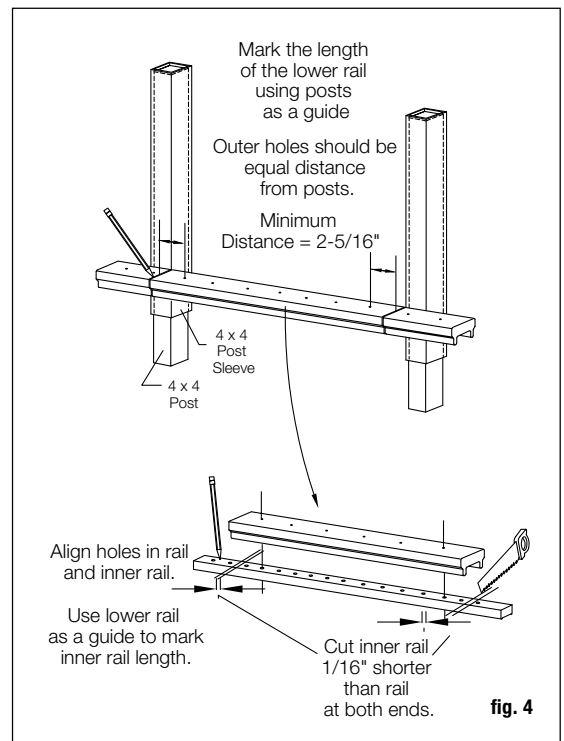

fig. 4
Step 7 *Note:* To ensure the balusters are installed plumb, the holes between the rail sections must all be aligned. *Tip:* Use a gauge pin or a 3/32" drill bit to ensure the holes are aligned. Using the trimmed lower rail as a guide, set one inner rail on the trimmed bottom rail and align the pre-drilled holes. Mark the cut lines on the inner rail with a pencil. *Note:* To allow for the thickness of the brackets, the inner rails should be 1/8" shorter than the outer rails with all holes equally spaced. Remove an additional 1/16" from the pencil mark on each end and trim the inner rail to length. Repeat for the second inner rail (fig. 4).